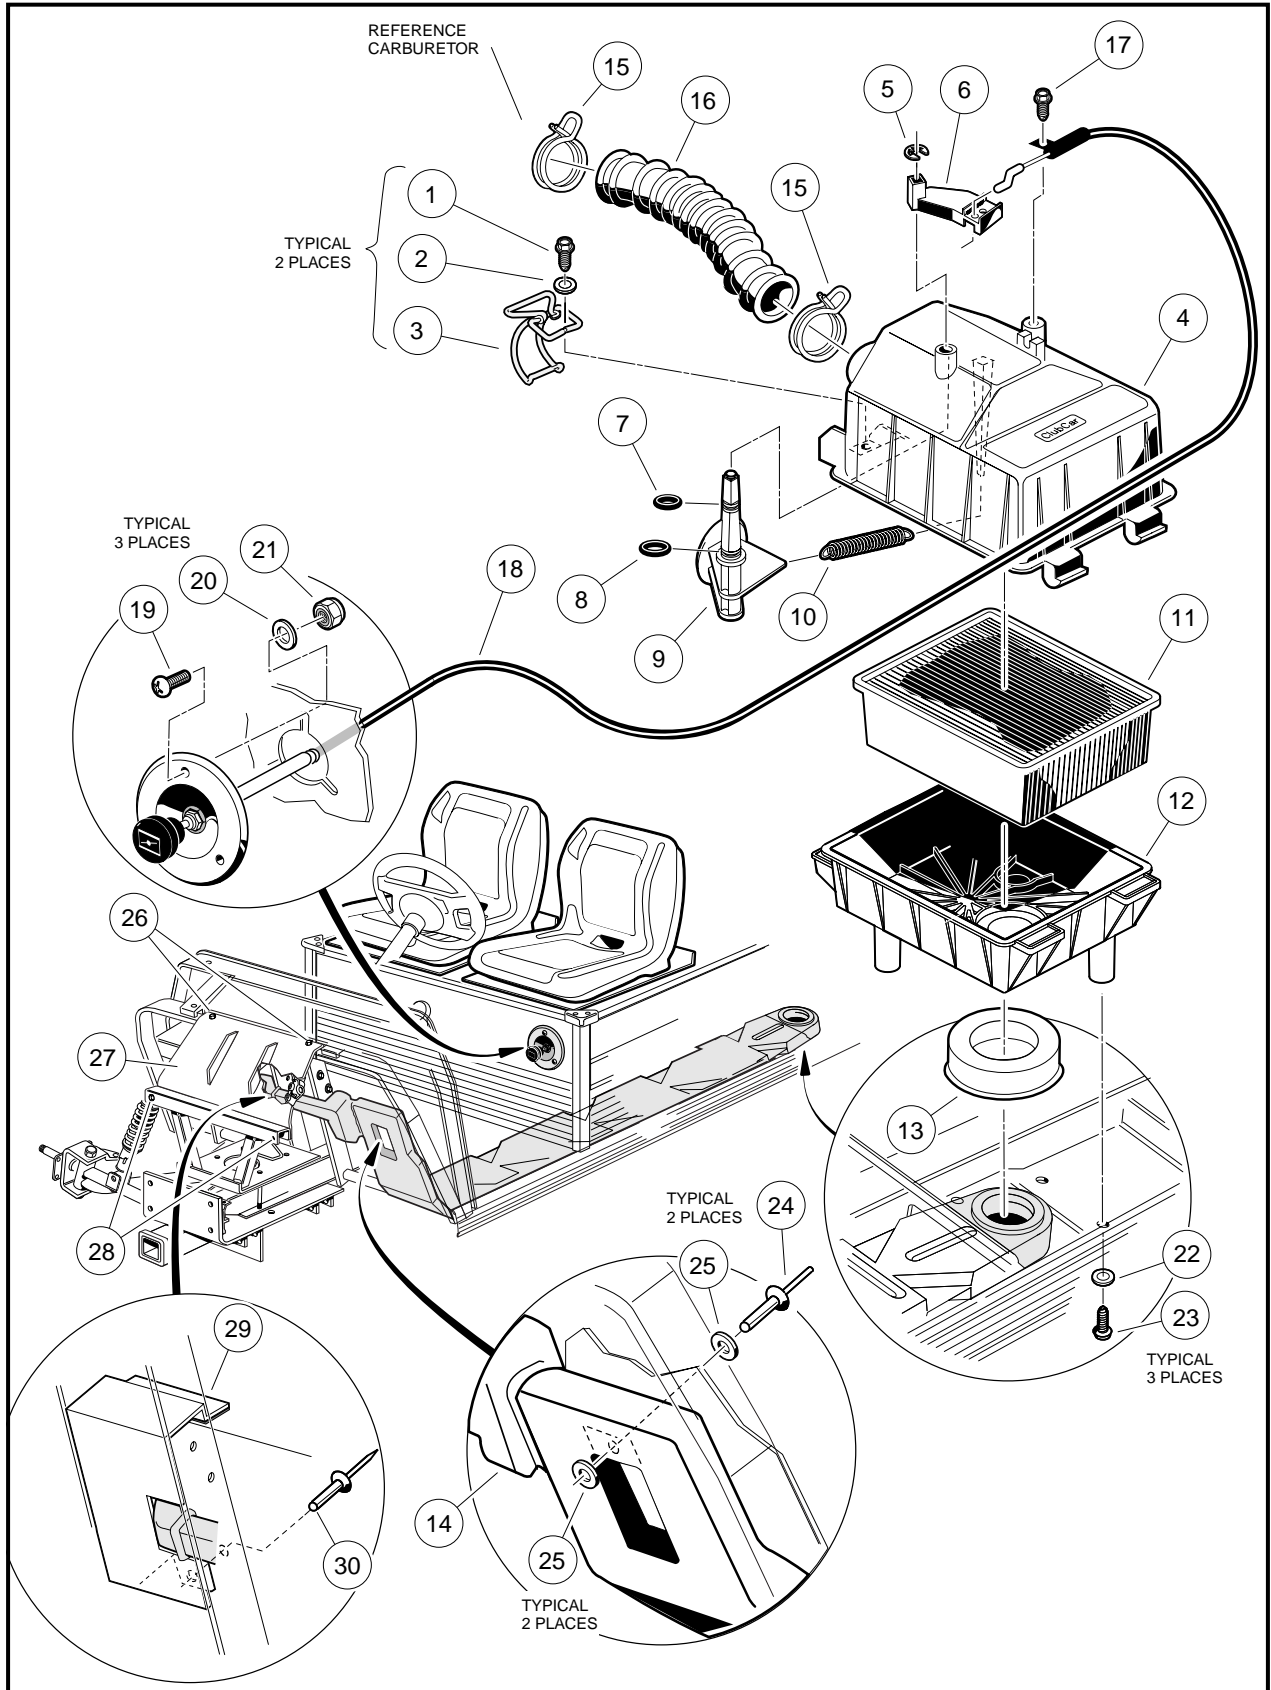

Figure 14-14 Air Intake and Choke Assemblies
1. Remove the screw (17) securing cable to air box and detach cable end from choke lever (6) (**Figure 14-14, Page 14-17**).
2. Remove three screws (19), nuts (21) and washers (20) from body and remove choke cable assembly from body (**Figure 14-14, Page 14-17**).
2. Install three screws (19), washers (20), and locknuts (21) as shown and tighten to 18 in-lb (2.0 N·m) (**Figure 14-14, Page 14-17**).
4. Attach choke cable to choke lever (6) on air box. Install screw (17) to secure cable to air box and tighten to 18 in-lb (2.0 N·m) (**Figure 14-14, Page 14-17**).
2. Remove the air intake box from the vehicle by removing intake hose (16) and three screws (23) and washers (22) that mount the intake box to the vehicle (**Figure 14-14, Page 14-17**).
1. Check to be sure the intake seal (13) is seated correctly (**Figure 14-14, Page 14-17**). The seal fits tightly onto the bottom side of the air box. If seal is not in place, moisture will enter the air intake system.
2. Place the air box assembly into vehicle and install three flat washers (22) and screws (23) from underside of air box mounting plate into air box (**Figure 14-14, Page 14-17**). Tighten to 33 in-lb (3.7 N·m).
8. Remove the two bolts (26), locknuts and flat washers that secure the strap plate (27) to the vehicle frame (**Figure 14-14, Page 14-17**).
9. Remove the two bolts (28) and nuts that connect the upper shock mounts to the shock tower and strap plate (27) (**Figure 14-14, Page 14-17**).
10. Remove the strap plate (27) (**Figure 14-14, Page 14-17**).
11. Roll the floor mat from underneath the dashboard and drill out the pop rivet (30) that secures the air intake shield (29) to the floorboard.
13. Drill out the two pop rivets (24) securing the intake duct to the floorboard (**Figure 14-14, Page 14-17**).
14. Remove three screws (23) and flat washers (22) from the bottom of the air box assembly (**Figure 14-14, Page 14-17**).
2. Secure the front of the duct to the underside of the floorboard with two pop rivets (24) and flat washers (25) (**Figure 14-14, Page 14-17**).
4. Install the shield to the frame with the adhesive strip and a pop rivet (30).
7. Position the strap plate (27) on the frame and install two bolts (26), flat washers and locknuts. Finger tighten (**Figure 14-14, Page 14-17**).
8. Connect the strap plate (27) and upper shock absorber mounts to the shock tower with two bolts (28) and nuts (**Figure 14-14, Page 14-17**). Tighten the two bolts (28) and nuts to 20 ft-lb (27 N·m) (**Figure 14-14, Page 14-17**).
9. Tighten the two bolts (26) and locknuts to 20 ft-lb (27 N·m) (**Figure 14-14, Page 14-17**).
2. Lift two latches (3) on the side of the air box (**Figure 14-14, Page 14-17**).
3. Remove the hose clamp (15) from the air hose and remove hose from the air box assembly.
4. Standing on driver side of vehicle, grasp air hose mounting inlet and open box fully. Remove filter element (11).
7. Fasten wire latches (3). Make sure latches securely engage the bottom half of the box. **See following CAUTION.**
8. Reinstall hose (16) and hose clamp (15) (**Figure 14-14, Page 14-17**). Make sure clamp ends are located in the 12:00 o'clock position.